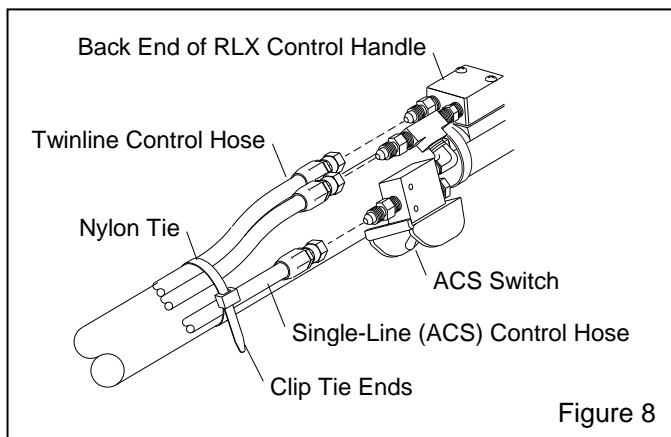

Figure 8
2.3.3 Refer to Figure 8 and attach the 50-ft. twinline hose to the two fittings on the back of the control handle. Either side of the hose can be attached to either fitting.
2.3.6 Working from the control handle back, band the twinline and single-line hoses to the blast hose every four to six feet, as shown in Figure 8, and as close to the couplings as possible.